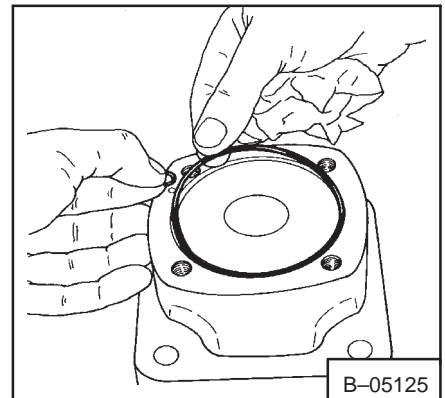

Fig. 3-48 Removing The O-rings
18. Remove the O-rings (large and small) from the bearing housing (Fig. 3-48).